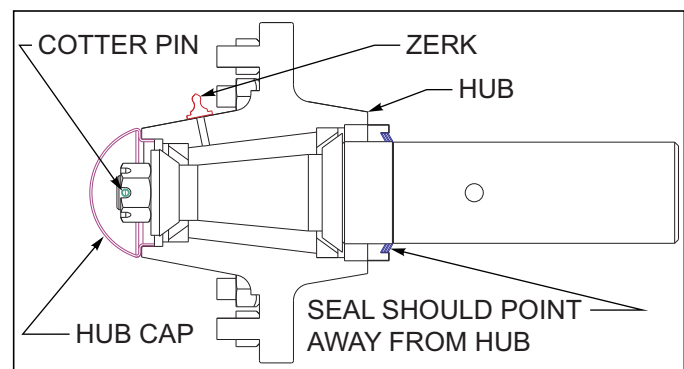

Figure 4-22: Triple Lip-Seal
The triple-lip seals should point away from the hub to keep contaminants out and allow grease to pass (See Figure 4-22.)
13. Install a new cotter pin and replace the hub cap. (**See Figure 4-22.**)